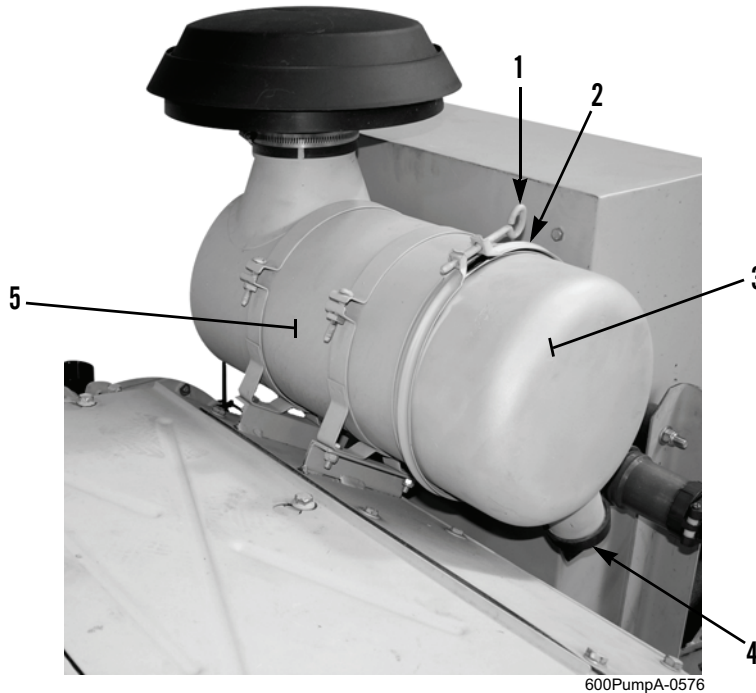

Figure 1. Air Cleaner Housing Assembly.
1. Empty dust evacuator valve (Figure 1, Item 4) by squeezing discharge slot and expelling dust from air cleaner.
3. Loosen thumbscrew (Figure 1, Item 1) and clamp (Figure 1, Item 2) and remove cover (Figure 1, Item 3) from air cleaner housing (Figure 1, Item 5).